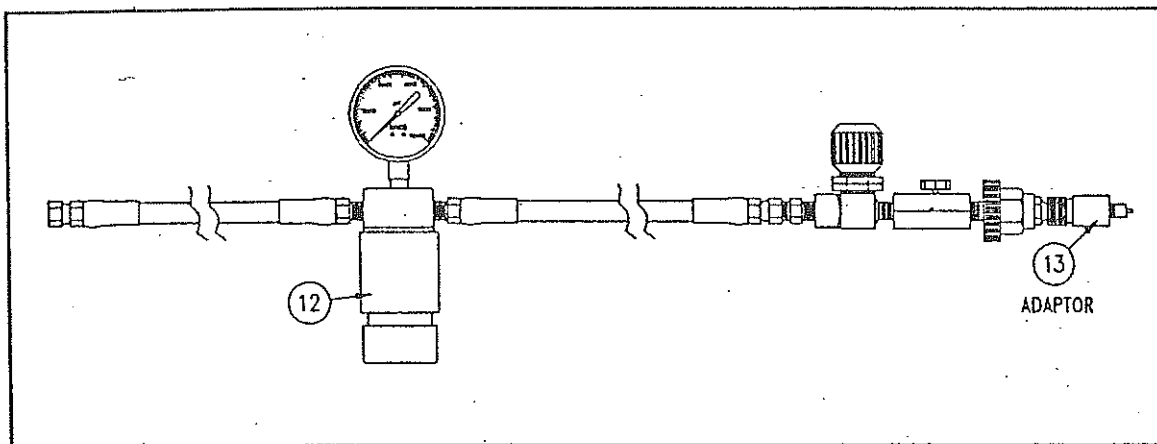

FIGURE 14-4 BRASS ADAPTOR INSTALLATION
3. Install the brass air sample adaptor (13) on the sampling device as shown in Figure 14-4.